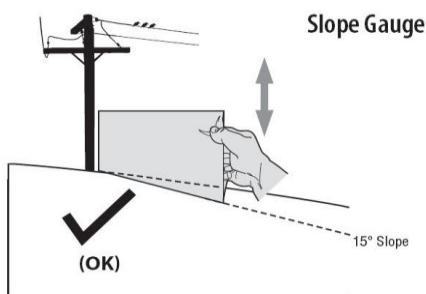
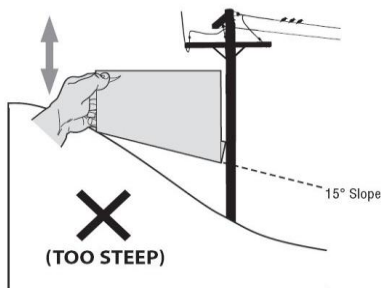

Figure 1
Figure 2
3. Align either side of the slope gauge with the object (see Figure 1 and Figure 2).
4. Adjust the gauge up or down until the left corner touches the slope (see Figure 1 and Figure 2).
If there is a gap below the gauge, the slope is too steep for safe operation (see Figure 2 above)